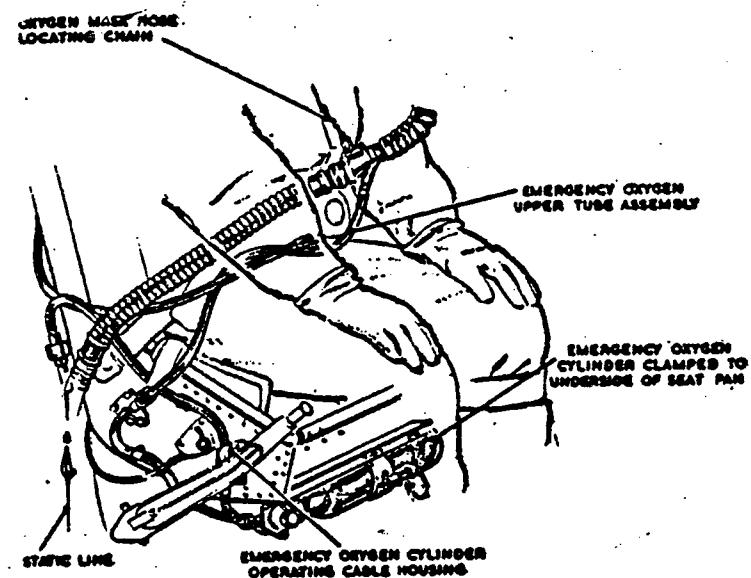

FIG 2 Arrangement of supply (Type 3H Seat).
5.1 Servicing diagram (Fig 2).